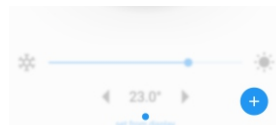

Figure 4
4) To add the thermostat to the application: In the application touch the '+' icon to the bottom left corner of the screen (Figure 4). By selecting scan the QR Code with the camera scan the serial number located inside the receiver or scan the QR Code on the included card. Otherwise you can insert the serial number by typing the 32digit on the included card.